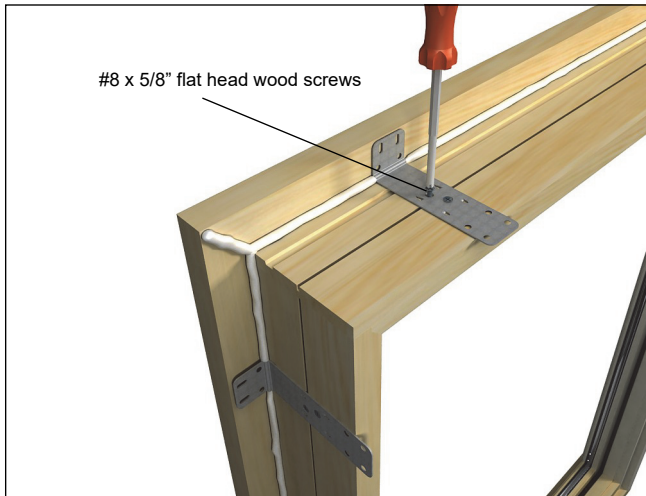

Figure 5 Wrap style bracket shown.
4. Fasten the bracket to the unit using the screws provided. See figure 5.